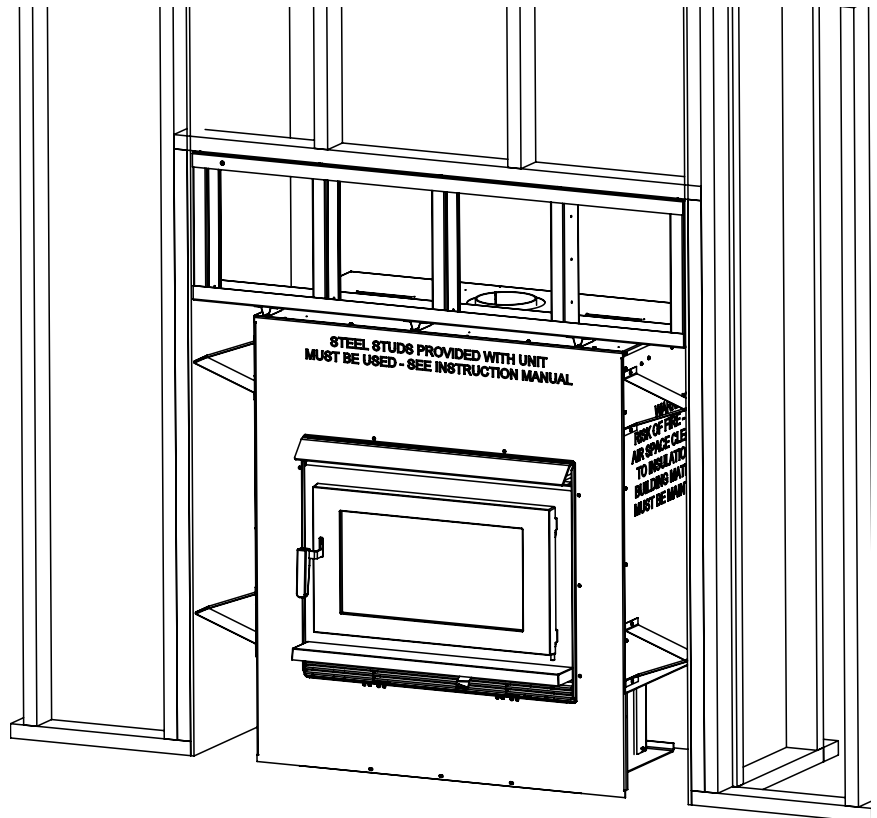

Figure 12: FP30 Framing with Unit.
- Place the Steel Framing Kit on top of the unit with the legs down (Figure 12). The front edge of the framing must be flush with the Fireplace front. Install the screws through the outer Framing kit legs into the fireplace using the holes provided.